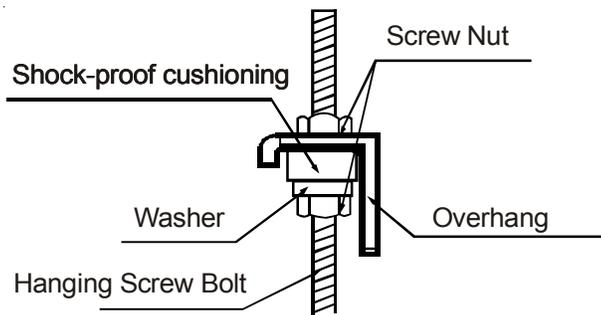

Figure 6
2. Using a level, position the unit to hang flat to prevent leaks, Figure 6.